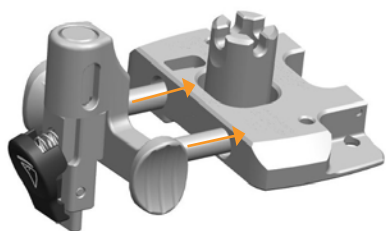

Figure 67
1. Insert the Fixed Valgus Bridge into the LEGION® Kinematic Alignment Valgus Guide (**Figure 67**).